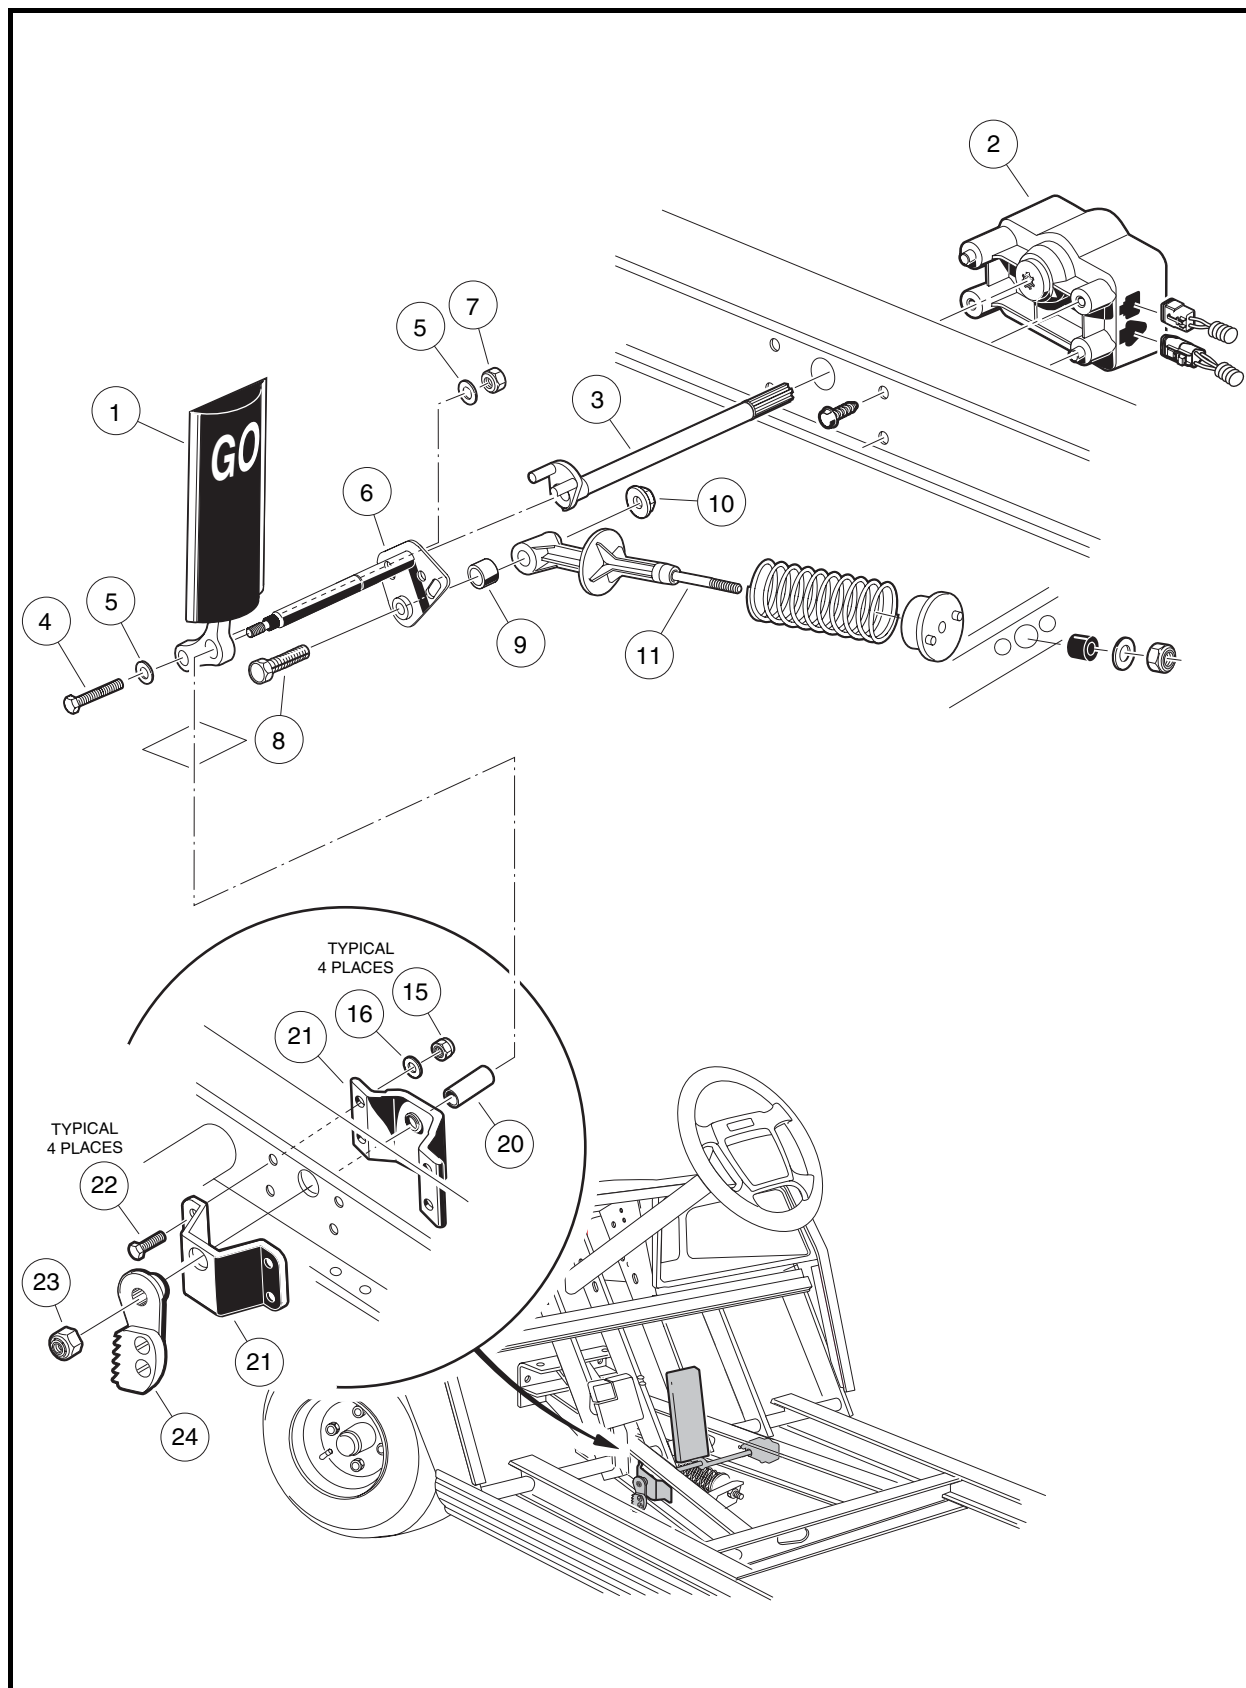

Figure 5-8 Accelerator Pedal – Electric Vehicle
3. Remove the MCOR (2) and drive bar (3) as instructed (**Figure 5-8, Page 5-10**). See **MCOR Removal, Section 12, in the appropriate maintenance and service supplement**.
4. Use a 9/16-inch socket and 9/16-inch wrench to remove the nut (7), two washers (5), and bolt (4) securing the accelerator pedal (1) to the pivot rod (6) (**Figure 5-8, Page 5-10**).
5. Remove the nut (10) and bolt (8) from the accelerator pivot rod assembly (6).
6. Slide the spring retainer (11) off of the accelerator pivot rod.
7. Inspect the pivot support bearing (9) for wear and replace if necessary.
8. Use a marker to mark the position of the park brake ratchet (24) on the accelerator pivot rod (6). See following **NOTE**.
9. Remove the lock nut (23) from the accelerator pivot rod.
10. Press the brake pedal slightly and slide the park brake ratchet (24) toward the end of the accelerator pivot rod. Rotate the ratchet and remove it from the pivot rod.
11. Remove the pivot rod (6) and spacer (20) from the accelerator pivot rod supports (21) (**Figure 5-8, Page 5-10**).
12. Inspect the accelerator pivot rod supports (21) for wear and damage and replace as necessary. If the pivot rod supports do not require replacement, loosen, but do not remove, the four bolts (22) and lock nuts (15) to make installation of the pivot rod easier.
13. Remove the accelerator pedal (1) from the vehicle (**Figure 5-8, Page 5-10**).
1. If the accelerator pivot rod supports were replaced, position the supports (21) on the vehicle frame and install the four bolts (22), flat washers (16), and lock nuts (15) (**Figure 5-8, Page 5-10**). Finger-tighten nuts at this time.
2. Insert the lower end of the accelerator pedal (1) through the floorboard and install the accelerator pivot rod (6) through the uppermost hole in the pedal.
3. Install plastic spacer (20) on pivot rod (6).
4. Insert the pivot rod through the pivot rod supports (21) on the vehicle frame.
5. Tighten the four bolts (22) attaching the pivot rod supports to the frame to 75 in-lb (8.5 N·m) (**Figure 5-8, Page 5-10**).
6. Insert the bolt (4), two washers (5), and a new lock nut (7) through the lower hole in the pedal and through the pivot rod. Finger-tighten lock nut at this time.
7. Install the bolt (8) through the pivot rod (6) and spring retainer (11). Secure these parts with the nut (10) (**Figure 5-8, Page 5-10**). Tighten the nut to 50 in-lb (5.5 N·m).
11. Install lock nut (23) on pivot rod (**Figure 5-8, Page 5-10**). Tighten to 18 ft-lb (24.5 N·m).
12. Install the MCOR (2) and drive bar (3) as instructed. **See MCOR Removal, Section 12, in the appropriate Maintenance and Service Supplement.**